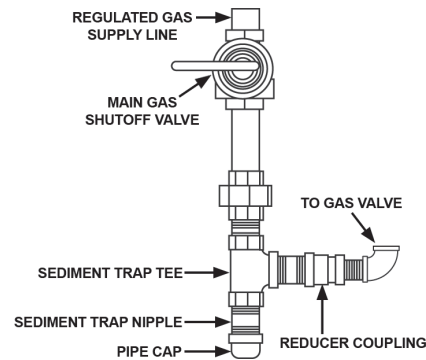
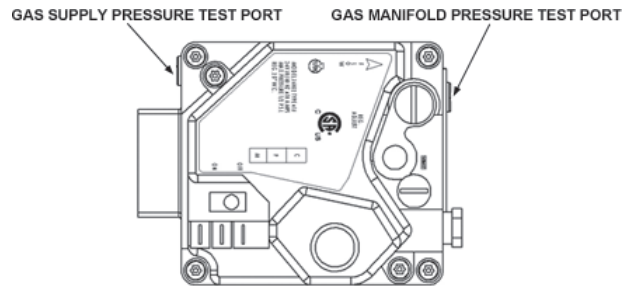

FIGURE 21.
FIGURE 22. – TOP VIEW
To trap any dirt or foreign material in the gas supply line, a sediment trap must be incorporated in the piping (see Figure 21). The sediment trap must be readily accessible and not subject to freezing conditions. Install in accordance with recommendations of serving gas suppliers. Refer to the current edition of the National Fuel Gas Code.
- For test pressures exceeding 1/2 psi (3.45 kPa) disconnect the water heater and its Main Gas Shutoff Valve from the gas supply piping system during testing, see Figure 21. The gas supply line must be capped when disconnected from the water heater.
1. Close the Main Gas Shutoff Valve, see Figure 21 on page 24.
3. Close the Main Gas Shut Off Valve, see Figure 21 on page 24.
4. Wait five (5) minutes for any residual gas to clear.
5. Open the Supply Gas Pressure Port on the gas control valve by turning the center screw counter-clockwise. Connect the manometer to the supply gas pressure test port, see Figure 22.